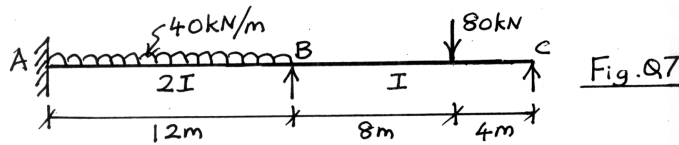

Fig. Q7
7. Analyse the continuous beam shown in Fig. Q7. By displacement-transformation method. Sketch BMD and elastic curve.